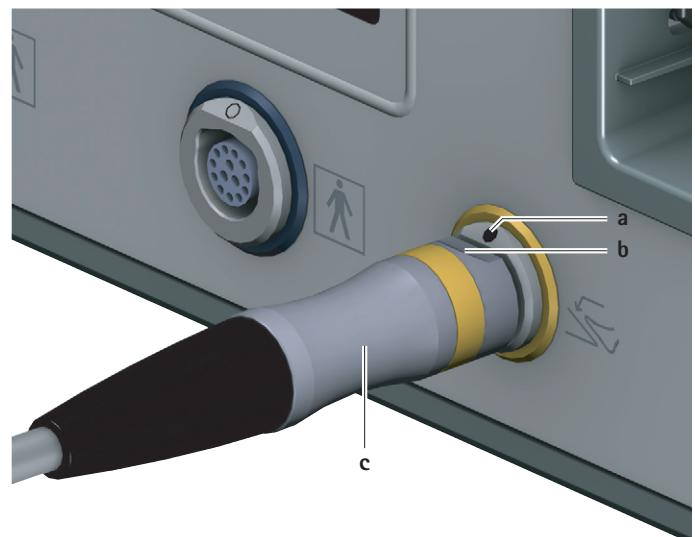

Fig. 2 Connecting the foot control
- Position connector of foot control c so that marking b on the connector is aligned with marking a on the connection socket for foot control 6, see Fig. 2.
- Unplug connector for foot control **c** from the connection socket for foot control **6**, see Fig. 2.